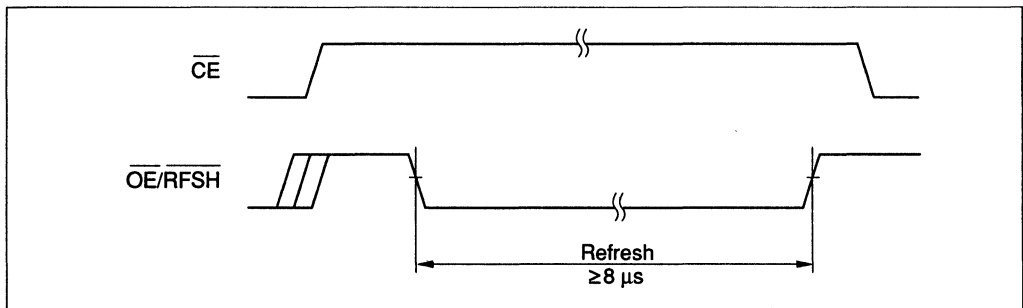

Figure 2-6 Self Refresh
**Self refresh:** This mode refreshes data automatically at fixed periods with the internal refresh timer. The self refresh mode is enabled by keeping  $\overline{OE}/\overline{RFSH}$  low for more than 8  $\mu$ s with  $\overline{CE}$  high. This mode reduces the number of external circuits necessary for refresh since both refresh addresses and refresh request signals are generated internally. Figure 2-6 shows the timing chart for self refresh. The width of the  $\overline{OE}/\overline{RFSH}$  pulse while  $\overline{CE}$  is high determines whether automatic refresh or self refresh is performed. When the pulse width exceeds 8  $\mu$ s, the PSRAM enters self refresh mode. Self refresh mode is useful when retaining RAM data with batteries.